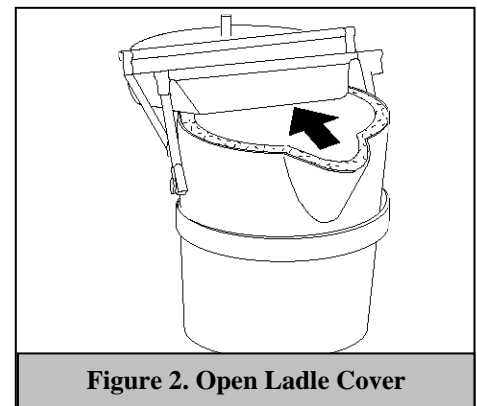

Figure 2. Open Ladle Cover
Step 2: Open the cover on your ladle. (See Figure 2.)